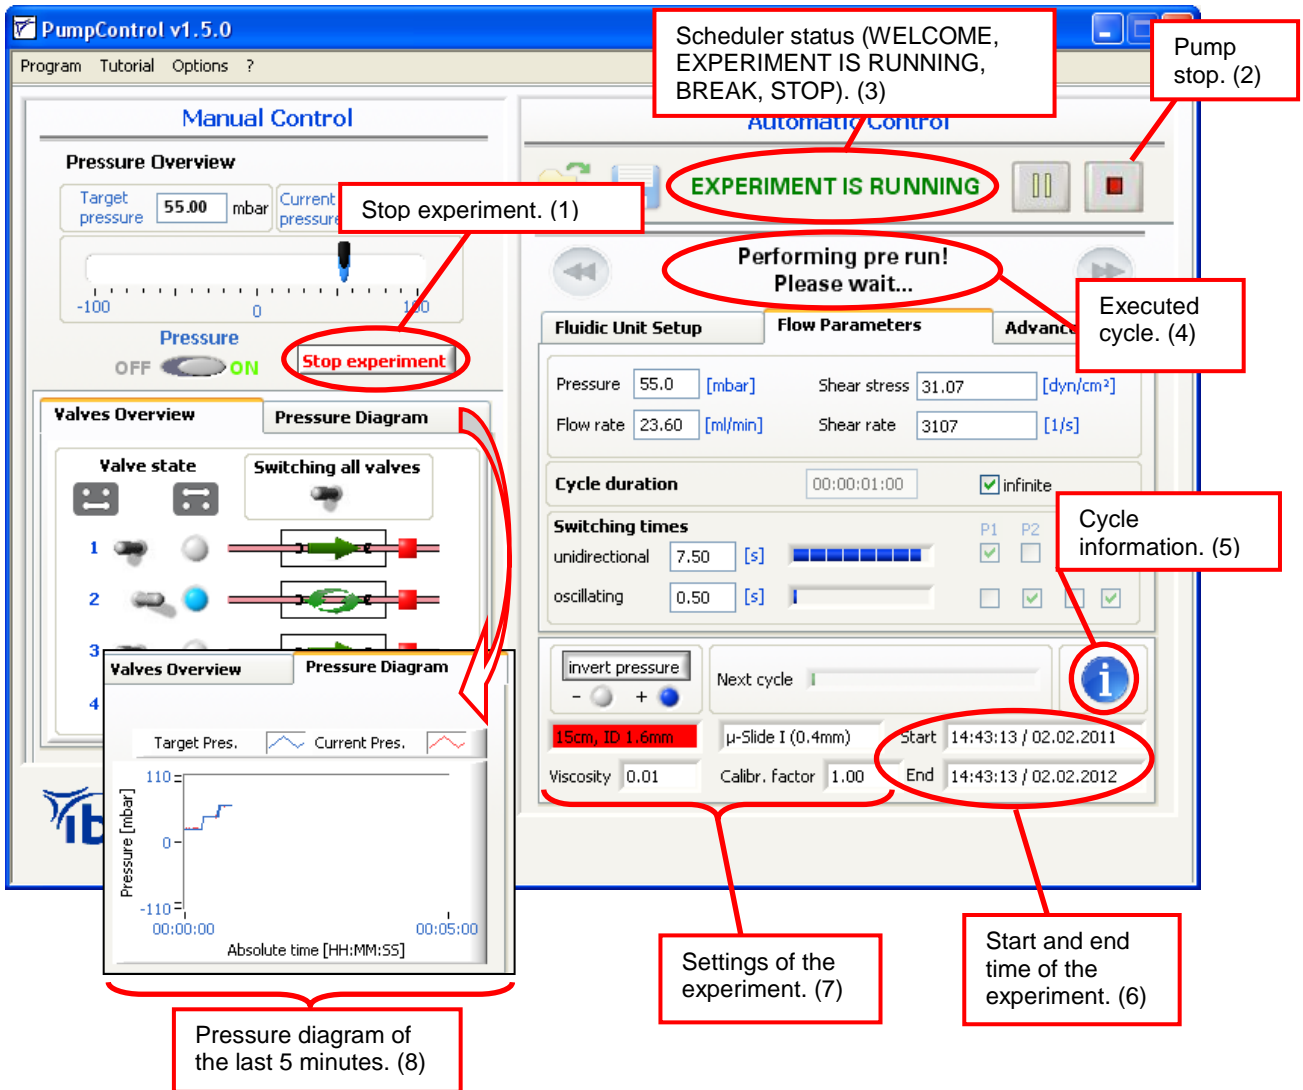

Figure 29: Pump Control During the Course of the Experiment
While the Scheduler is running, the functions are limited in the ibidi Pump. Most importantly, you can still stop the pump immediately by clicking on the 'Stop' button (controls 1 and 2 in Figure 29). You can also find several indicators (3) to (8) that display the current status of the experiment, as seen in the figure below.
The 'info button (control 5, in Figure 29) can be opened at any time to view a summary of the Scheduler's current status. This might be useful during longer experiments, to see which cycle and cycle parameters are being executed.